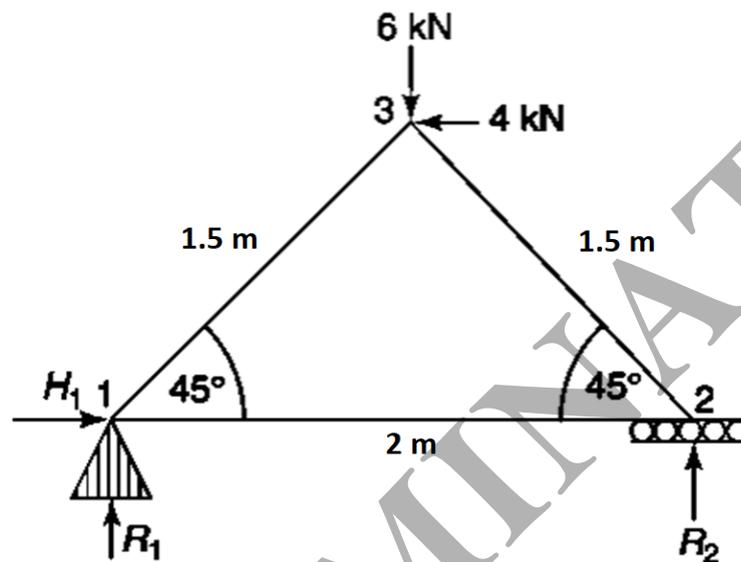

Figure Q5: Truss structure.
- a) An internal aircraft frame can be assumed as a truss, which is given in **Figure Q5**. Assume that the frame is at static state and ignore its weight.